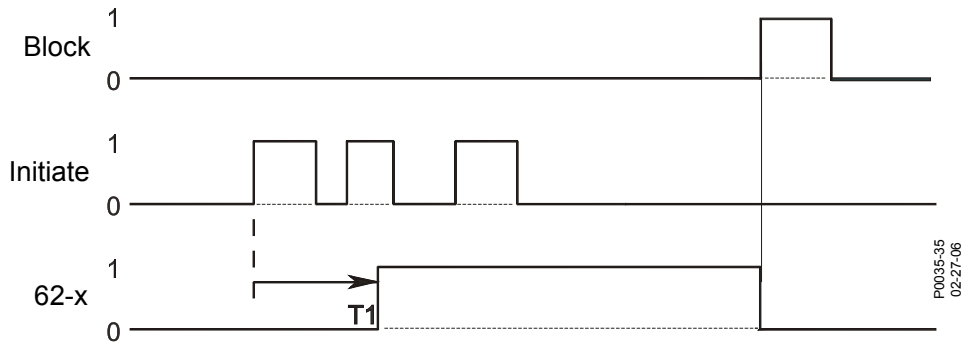

Figure 85-8. Latched Mode
- Step 9: Use the Metering Explorer in BESTCOMSP*lus* to open the Reports, Sequence of Events screen. Verify that the 62-1 timer output remained false after the first 43-1 switch action (ON), the 62-1 timer output went true 30 seconds after 43-1 switch action (ON), and 62-1 timer output returned to a false state with the 43-2 switch action (ON). Figure 85-8 illustrates the timing relationship of the 43-1/43-2 switches and 62-1 timer.